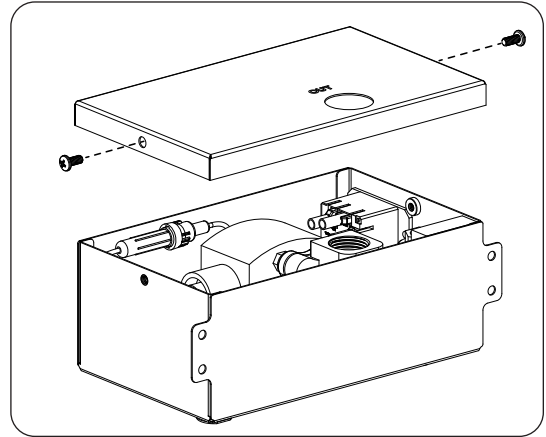

Fig. 43-1 Remove access panel of valve box
4. Use a Phillips screwdriver to remove the access panel of the valve box (see Fig. 43-1).